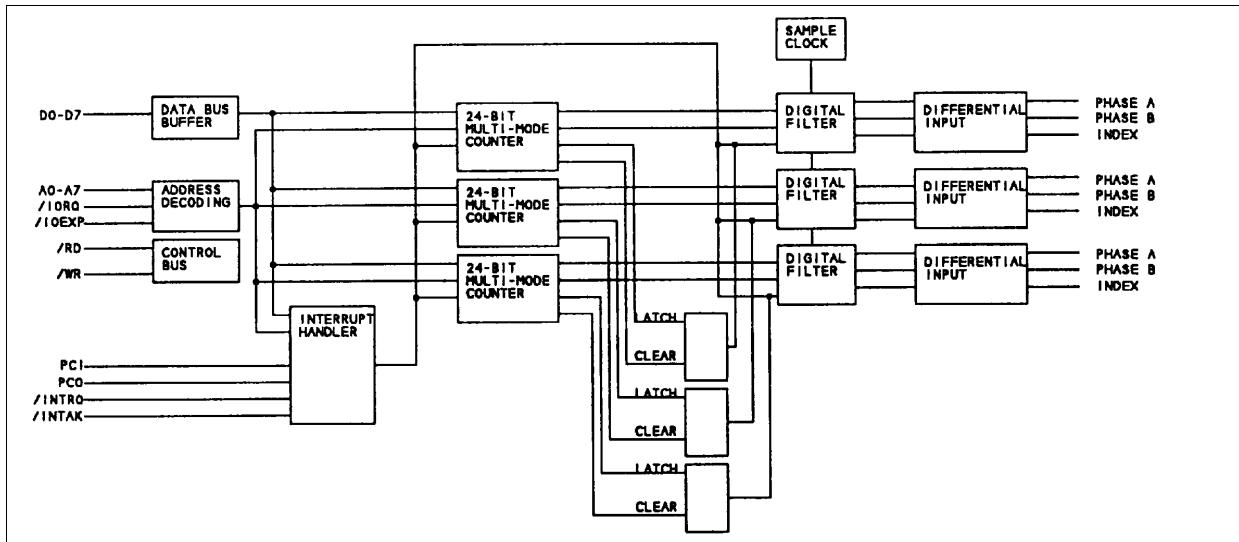

Figure 1.1 Functional block diagram for the 5312B
- Handle all static-sensitive components at a **Static Safeguarded** work area (see figure 1.1 for an example).
The 5312B Quadrature Encoder card is PC Bus compatible. It provides inputs and decoding for up to four incremental quadrature encoders depending on the model purchased. You may also use the card as a high-speed pulse counter (up/down and pulse/direction) for general counting applications. Figure 1.1 on the next page shows a functional block diagram.